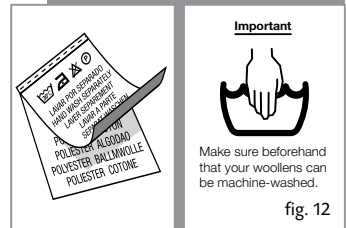

fig. 12
- We recommend using the delicate programmes for sensitive fabrics. There is a special wool programme for woollens (Figure 12).